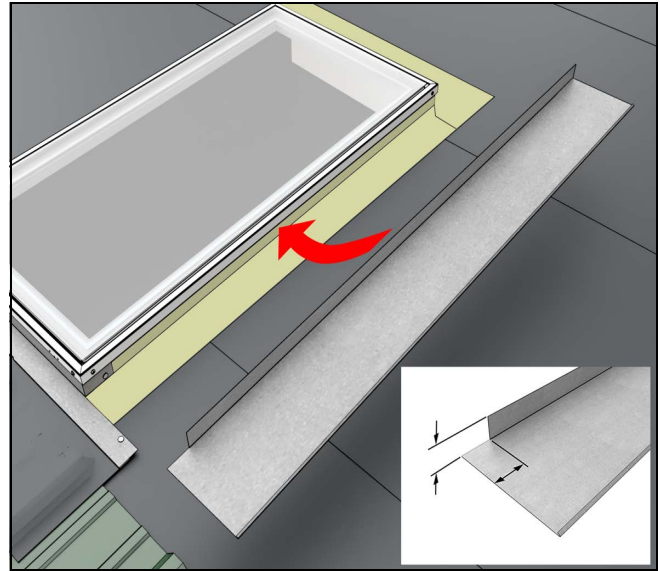

Figure 50
3. Remove material from vertical leg flush to sill apron assembly. Place jamb flashing tight to skylight jamb, align bottom of flashing to start of flexible apron material, mark back side of jamb flashing (2"). Attach with roofing nails. Repeat on opposite side. See Figure 50.